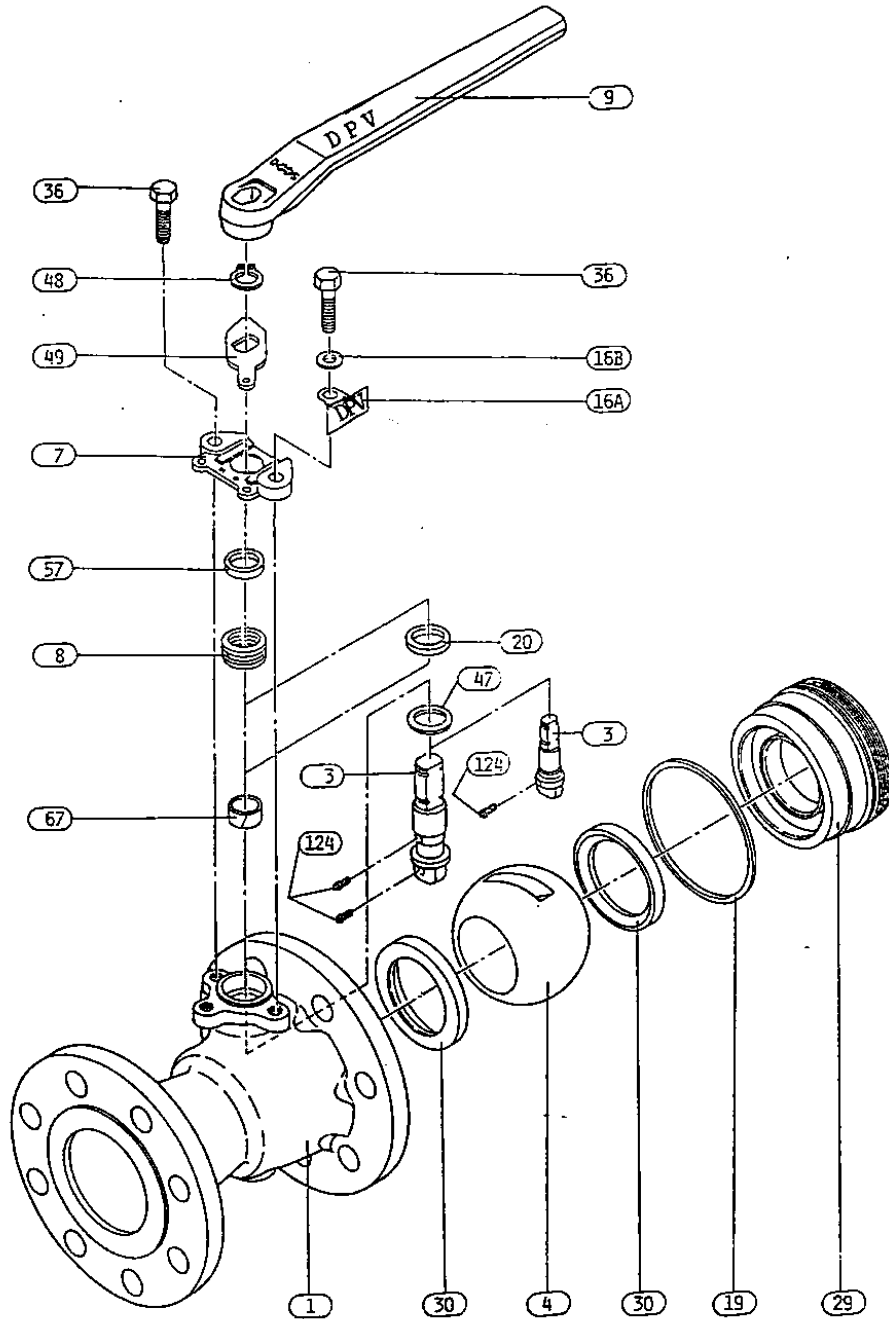

Fig. 2. Disassembly illustration of 6" to 10" valves
**Disassembly of valves; size 6” to 10” (Fig. 2)**
**Re-assembly of valves: size 6” to 10” (Fig.2**